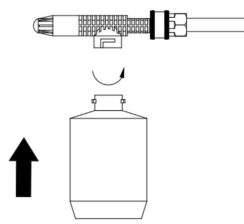

Fig.11
- Install bottle to soap nozzle as shown in Fig.11&12.